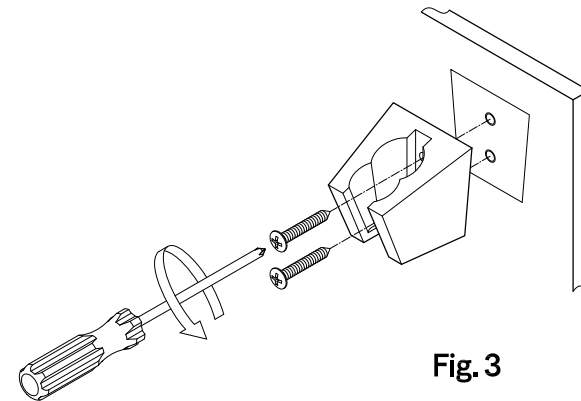

Fig. 3
- Step 4. Screw the wall bracket to wall with mounting screw (Fig. 3).